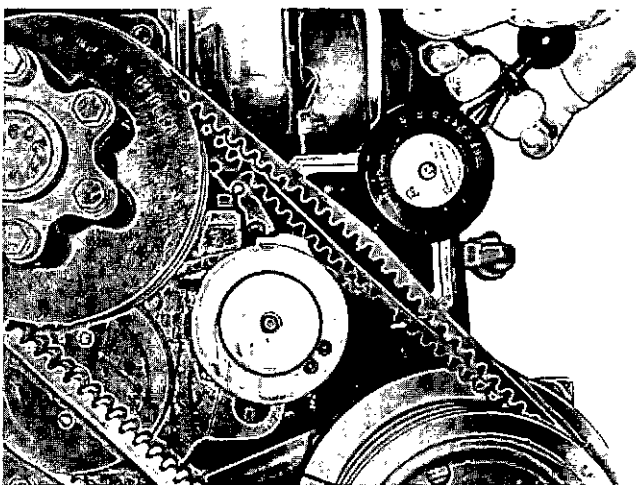

Fig. 2-26 (N11977) Checking belt tension with ST-1138
1. Using appropriate gauge, Fig. 2-26, check and/or adjust belts to tension as indicated in Table 2-3.